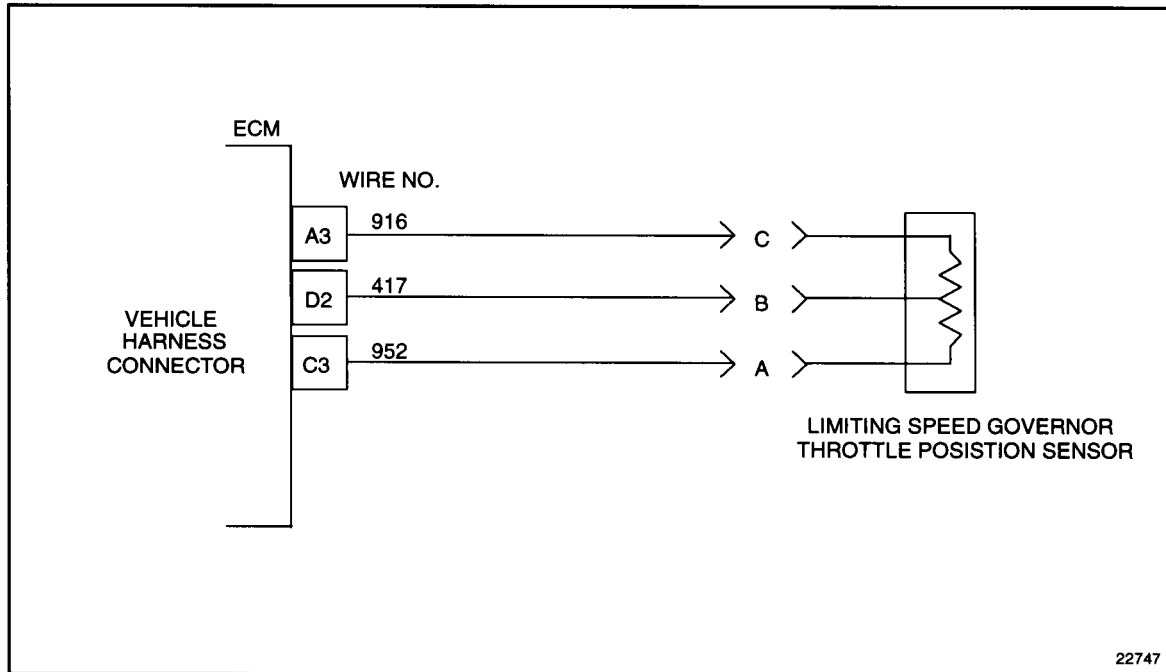

Figure 21-2 Throttle Position Sensor
4. Measure resistance between sockets C3 and D2 on the vehicle harness connector. For Throttle Position Sensor schematic, See Figure 21-2.